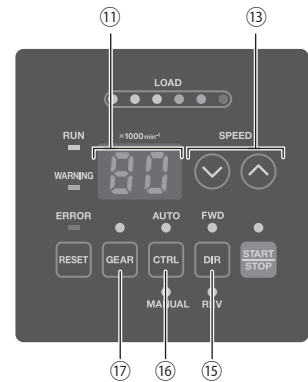

Fig. 26
- The Air input joint ⑦, is designed to accept cooling air between 0.25 - 0.3MPa (36.3 - 43.5psi). If the air pressure is too low, the CONTROLLER will not operate and an Error code will be generated.
- The cooling air also provides air purge protection to the motor spindle. If the Main Power Switch ⑨ is turned OFF, the cooling air will continue to flow. When using the CONTROLLER and SELECTOR without supplying cooling air, change setting parameter " $\text{P}7$ Setting Air Input Monitoring Override" to ON. Never spray coolant directly on the spindle body without an air purge.
- When using the SELECTOR, do not use Air input Joint ⑦ nor Air Output Joint ⑧ of the CONTROLLER. Install the provided Air Plug ((ϕ 6) for air stop) for safety and dust proofing to Air Input Joint ⑦ and Air Output Joint ⑧. The Air Input can be directly connected to the SELECTOR.
- Attach the provided Connector Cover for safety and dust proofing when not using the External Input / Output Connector A ③, B ④, or Serial I/F Connector ⑤ of the CONTROLLER.
15 - 1 Select Control Mode (MANUAL / AUTO). (Select the Control Button (CTRL) ⑯ of the Fig. 26.)
- (1) Using the Control Button (CTRL) ⑯ you can select between Manual (Front panel control) or Auto (External Signal Source) modes. External Signal Source can be used to control Motor Start / Stop, Rotation Direction, Motor Speed etc. From an external control source (CNC).
- (2) When operating from an External Signal Source, push the Control Button (CTRL) ⑯ of Fig .26 and select AUTO. The AUTO RED will illuminate.
- (1) Set Motor Rotating Direction (Set the Rotation Direction Button (DIR) ⑮ of the Fig. 26.)
- (2) Set 500 min⁻¹ (rpm) Centering Rotation (Set the Motor Speed Adjustment Button (SPEED ▲, ▼) ⑬ of the Fig. 26.)
- (3) Setting Gear Ratio (Set the Gear Mode Select Button (GEAR) ⑰ of the Fig. 26.)